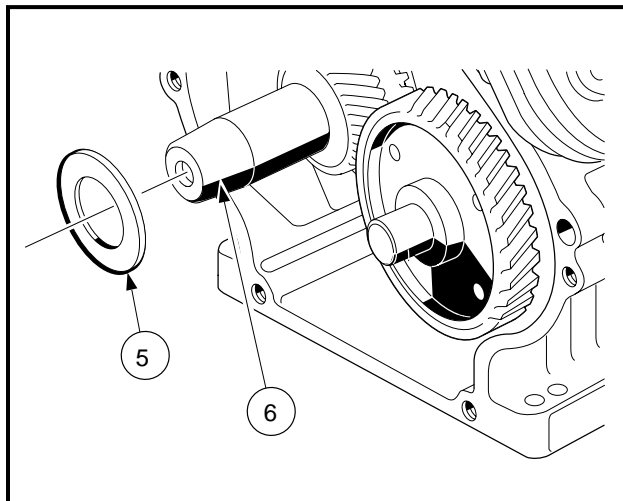

Figure 13-100 Install Shim on Crankshaft
5. Install the shim (5) on the crankshaft (6) (**Figure 13-100, Page 13-45**).